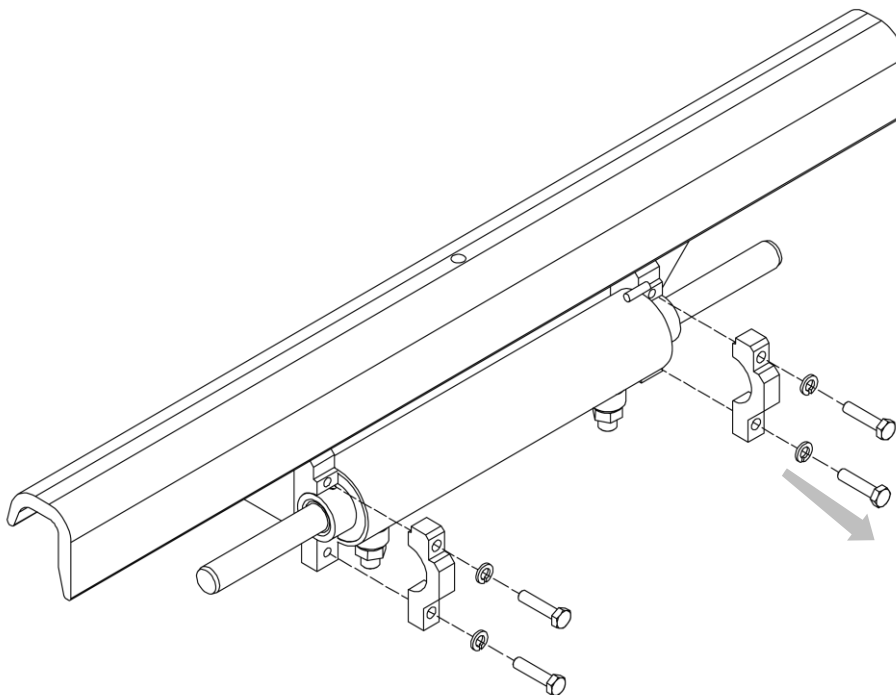

Figure 33
4. Use *Figure 33* as a guide.